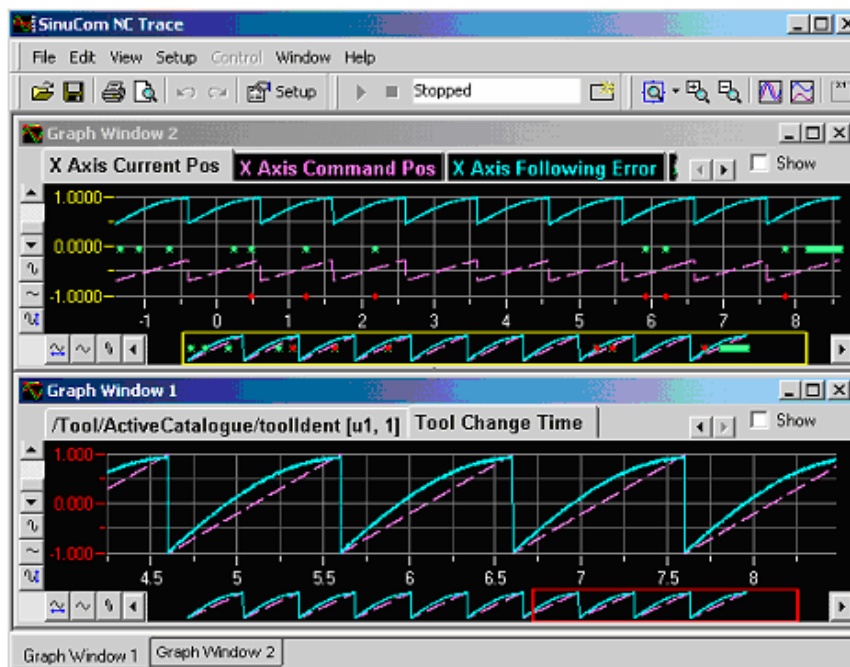

Bild 4-2 Multiple Graph Windows (tiled horizontally)
**"No Waveforms Shown"** – All defined waveforms have had their "Show" checkbox unchecked, see Figure 4-2.
The focus of the graph window determines which of the displayed waveforms is ready for manipulation. The focus can be changed from one waveform to another by clicking the associated colored tab, or by clicking the waveform itself. The colored tab can be configured to show either the waveform number, or the waveform description/name (as in "Graph Window 1" in Figure 4-2., above). The waveform that has focus is indicated in the colored tabs by a change in coloration..
The horizontal scroll bar is shown as a miniature image of the entire waveform, (see Figure 4-2) This bar can be moved or dragged just like a standard Windows® scroll bar. Additionally, a rectangle is superimposed onto a portion of the bar which corresponds to the portion of the waveform that is being displayed. This rectangle can be stretched to change the horizontal scaling.
The Trace Main (Entry) Menu and its toolbars are shown in Figure 4-2 below. Items found in common MicroSoft Windows® toolbars are shown but are not described here. Annotated items are specific to Trace.